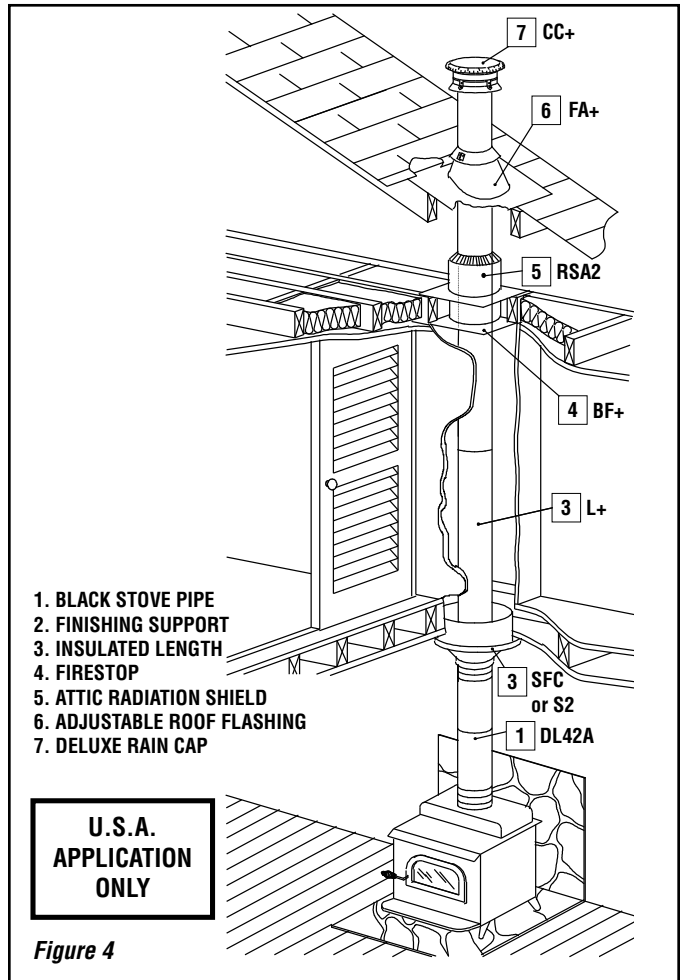

Figure 4
**Step 4.** Put this first chimney length in the support. Turn it clockwise to lock it in place (see figure 4).